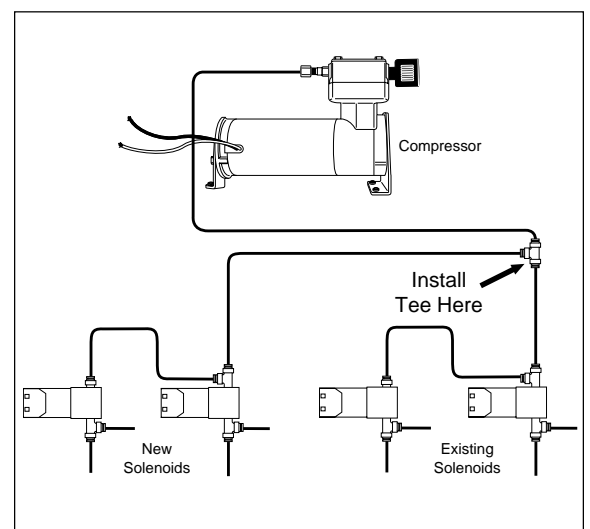

Figure 7
8. Select a point in the air line between the compressor and the original solenoids, at which to install a tee. This will provide air for the new set of solenoids (Figure 7).